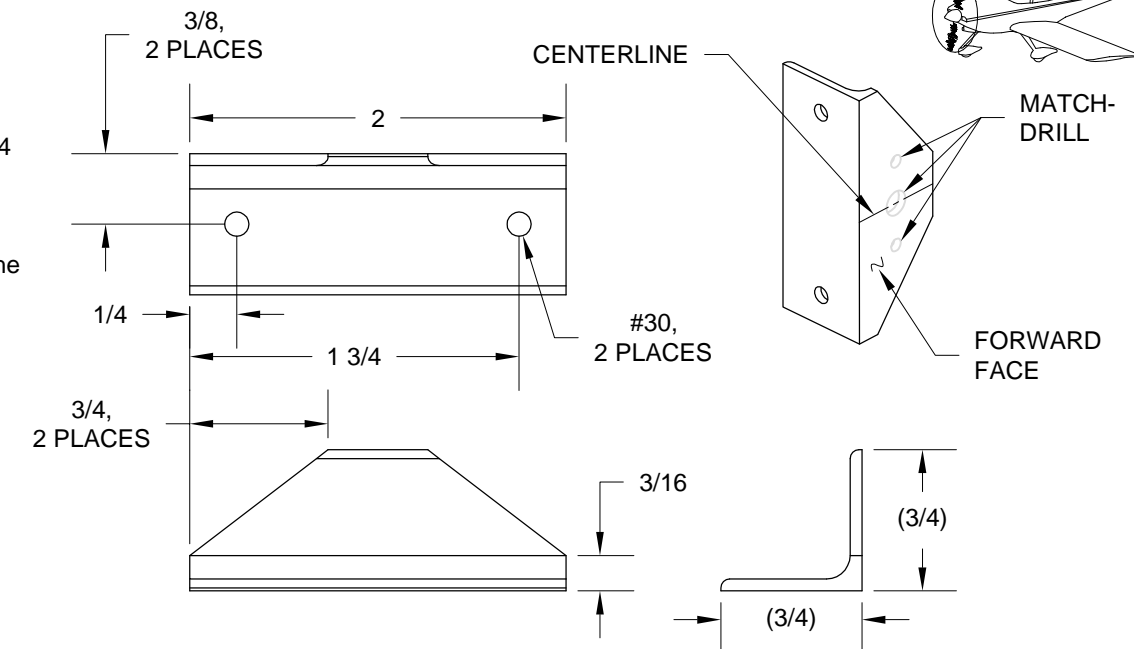
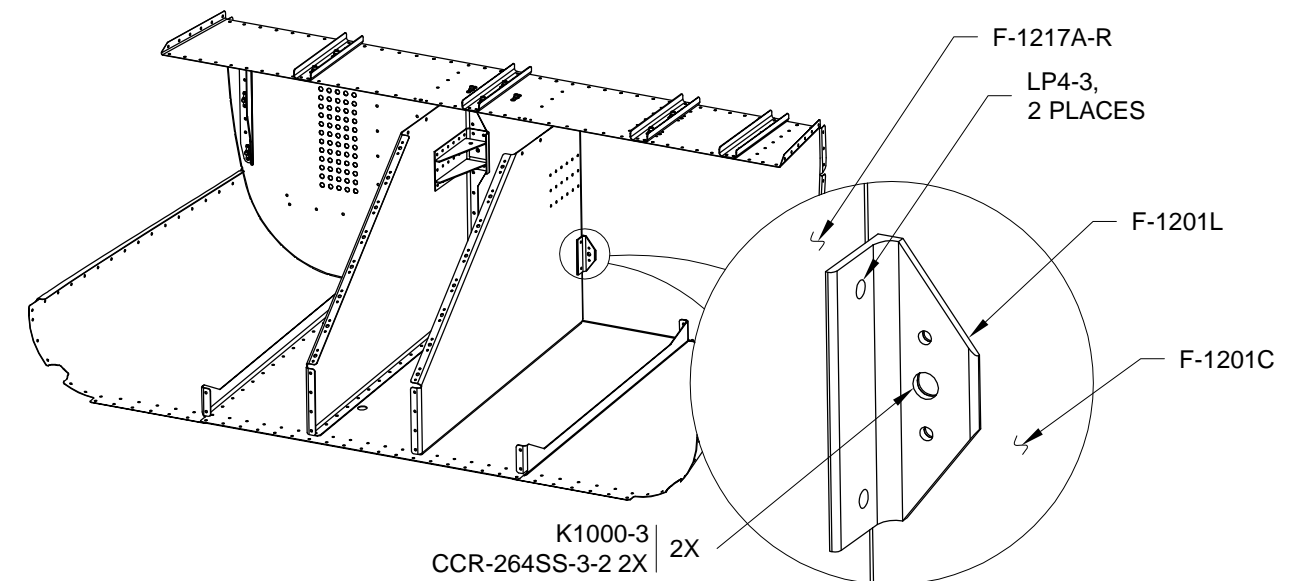

FIGURE 3: MAKING F-1201L
FIGURE 4: INSTALLING F-1201L
Step 1: Dimple the #40 holes in the nutplate attach pattern labled "Return Line Clamp" on the F-1201C Firewall Bottom, flush aft side. See Figure 4.
Step 2: Machine countersink the nutplate attach holes in the sloped upper flange of the F-1217A-L & -R Tunnel Ribs as shown in Figure 1. Machine countersink all the nutplate attach holes in the F-1272 Fwd Fuse Skin flush on the bottom side. See Figure 4. Machine countersink the upper most hole in the F-1288 Cooler Stiffener. See Figure 1.
Step 5: Machine countersink #30 the holes in the forward flange of the F-1217A-L and -R Tunnel Ribs that correspond to the flush rivets called out in Figure 4.
Step 8: Rivet the F-1288 Cooler Stiffener and corresponding nutplates to the firewall bottom. See Figure 1 and Figure 4.
Step 9: Rivet nutplates to the F-1217A-L & -R Tunnel Ribs and F-1272 Fwd Fuse Skin per the call outs in Figure 4. Rivet nutplates to the F-1201C Firewall Bottom and fwd fuse skin per the call outs in Figure 4.
Step 11: Center the F-1201U Firewall Spacers about the holes used to attach them to the Fwd Lower Fuse Assembly. Place the F-12118 Cowl Attach Plates over the top of the firewall spacer then cleco the hole on the inboard edge of the cowl attach plates. Clamp the outboard edge of the cowl attach plate and the firewall spacer to the Fwd Lower Fuse Assembly. See the exploded detail view in Figure 4.
Step 12: Match-Drill #30 the holes in the Fwd Lower Fuse Assembly into the F-1201U Firewall Spacers and F-12118 Cowl Attach Plates. Remove and deburr the firewall spacers. Machine countersink the nutplate attach holes in the cowl attach plates (flush bottom side). Rivet nutplates to the cowl attach plates. Rivet the firewall spacers and cowl attach plates to the fwd lower fuse assembly. See the detail view in Figure 4.
Step 13: Rivet a nutplate to the forward side of the F-1201C Firewall Bottom to the location labled "Return Line Clamp". See Figure 4.
Step 14: Use a unibit to enlarge the hole between the gascolator attach holes per the dimension given in Figure 4. To keep the hole centered draw a cross hair out from the hole for reference.
Step 6: Make the F-1201L Bracket from AA6-063X3/4X3/4 per the dimensions given in Figure 3.
Step 7: Draw a centerline on the forward face of the F-1201L Bracket. See Figure 3.
Step 8: Place the F-1201L Bracket flush against the F-1217A-R Tunnel Rib and F-1201C Firewall Bottom dimples as shown in Figure 4. Align the centerline on the forward face of the bracket with the gascolator attach hole (Page 22-2, Figure 3) then match-drill #40 the nutplate attach holes in the firewall bottom into the bracket (use a small wood block to protect your fingers). Remove the bracket and machine countersink the nutplate attach holes in the forward face of the bracket for the dimples in the firewall bottom.
Step 9: Cleco the F-1201L Bracket to the F-1201C Firewall Bottom. Match-Drill #30 and cleco the two holes in the inboard flange of the bracket into the F-1217A-R Tunnel Rib (a #30 12 inch extension bit is useful for these holes). Match-Drill #12 the gascolator attach hole in the firewall bottom into the bracket. See Figure 4.
Step 11: Rivet the F-1201L Bracket to the F-1217A-R Tunnel Rib and with a nutplate to the F-1201C Firewall Bottom as shown in Figure 4. Dimple then rivet a second nutplate to the remaining gascolator attach hole on the firewall bottom inside the tunnel.